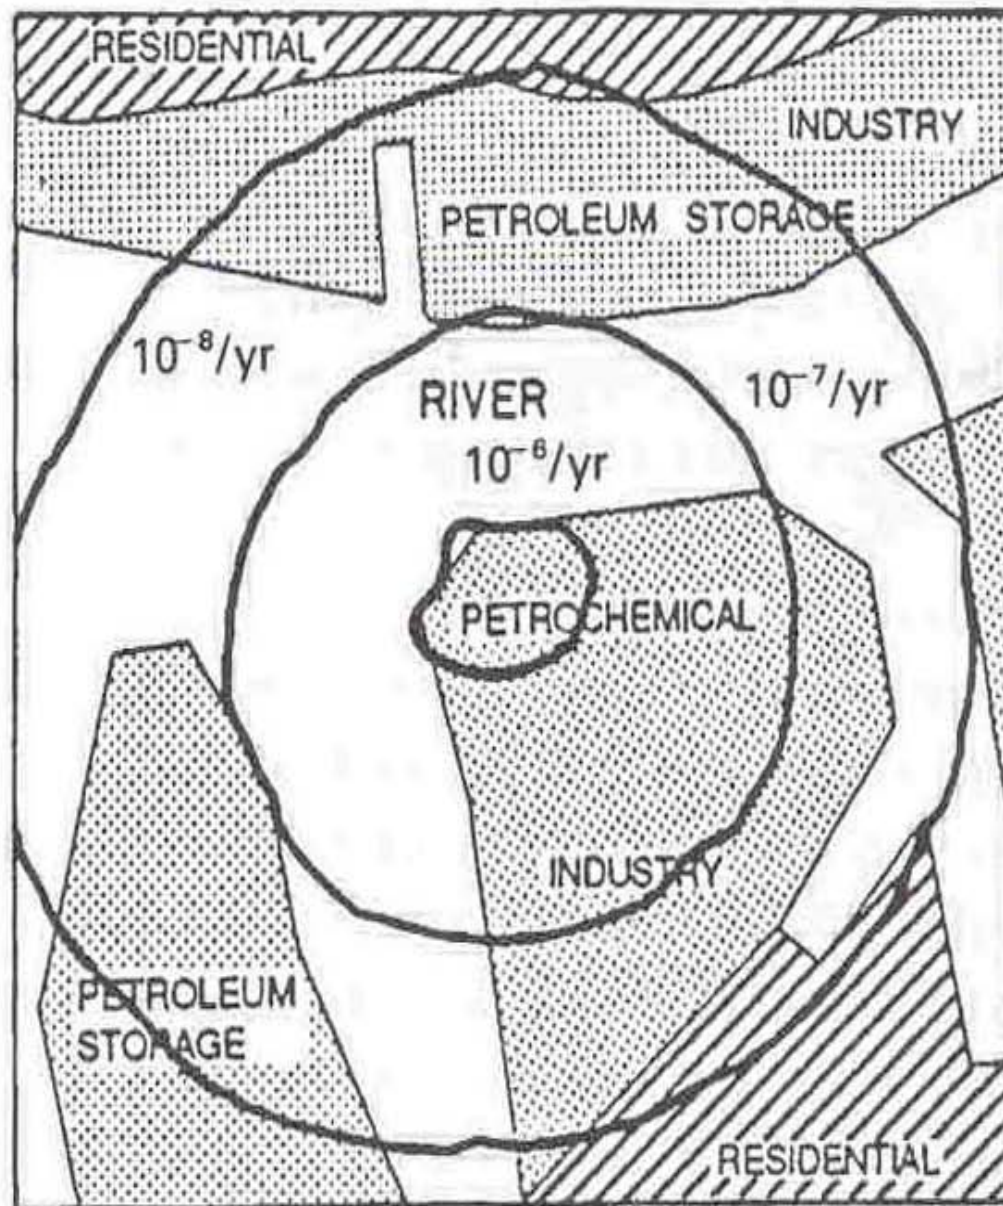
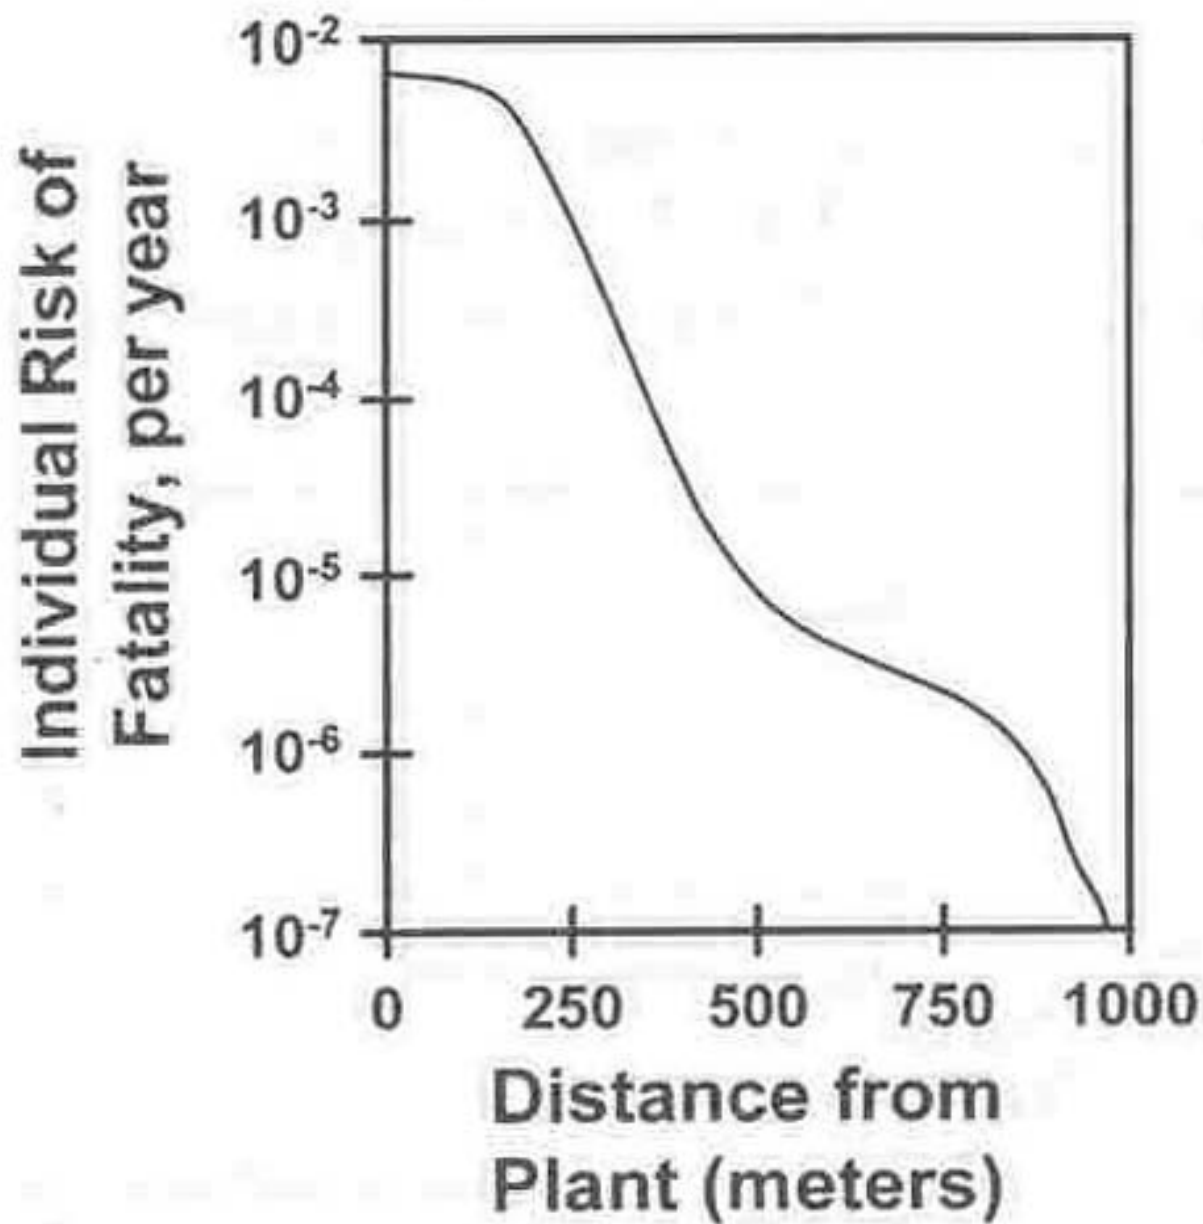

FIGURE 4.2. Example of an individual risk contour plot. Note: The contours connect points of equal individual risk of fatality, per year.
FIGURE 4.3. Example of an individual risk profile, or risk transect.
- Common form are risk contour plots (figure 4.2) and individual risk profiles also known as risk transect (figure 4.3)